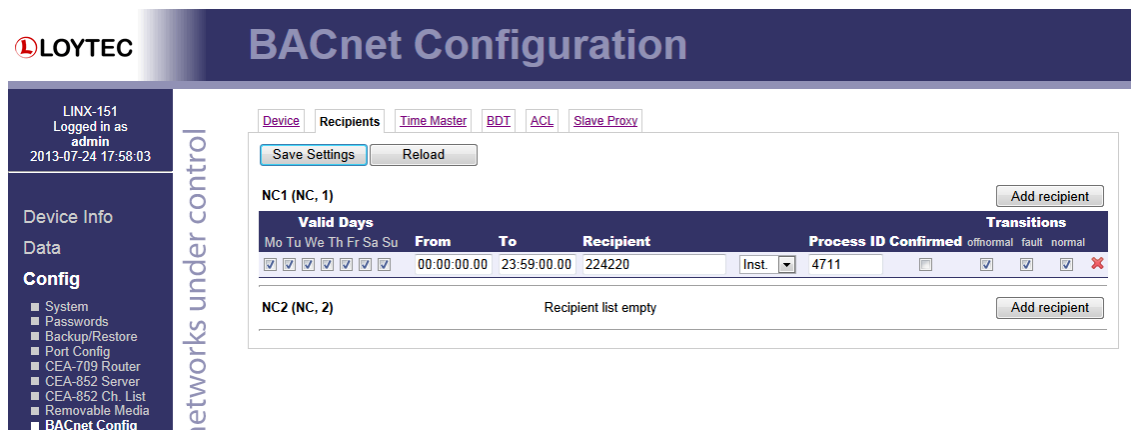

Figure 42: BACnet Recipients Configuration.
BACnet notification class (NC) objects have a recipient list. Other BACnet devices, that shall act as alarm recipients and receive alarm notifications need to be added to the recipient list of the respective notification class. The **Recipients** tab of the **BACnet Config** menu can be used to view currently subscribed recipients as shown in Figure 42. Recipient entries can be modified and deleted from the list. It is also possible to add new recipients to the list with the **Add Recipient** button. This way it is possible to integrate third-party devices as alarm recipients without an OWS.